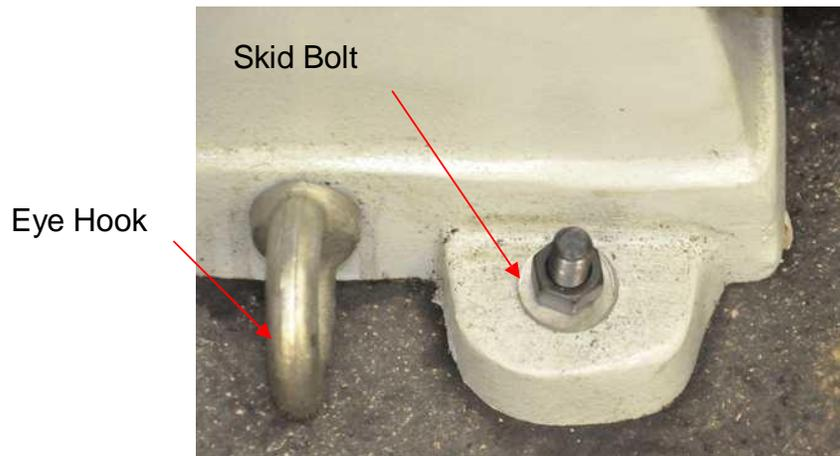

Figure 3-23
- 1) Use a wrench to remove the four nuts (Figure 3-23) that secure the machine to the shipping pallet. After removing the nuts, tap the bolts through the casting and pallet.